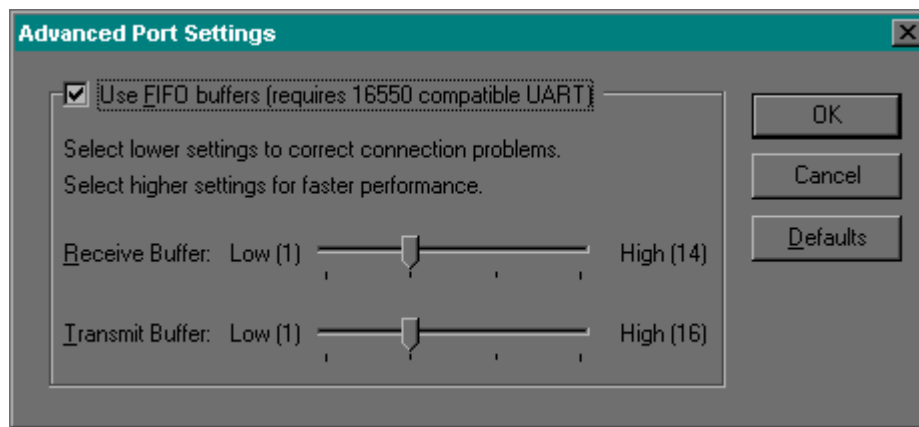

Figure 4-14. Advanced Port Settings window
9. Click on Port Settings. This will bring you to the Advanced Port Settings window as shown in Figure 4-14. Setup your window with the same parameters as those shown in Figure 4-14.